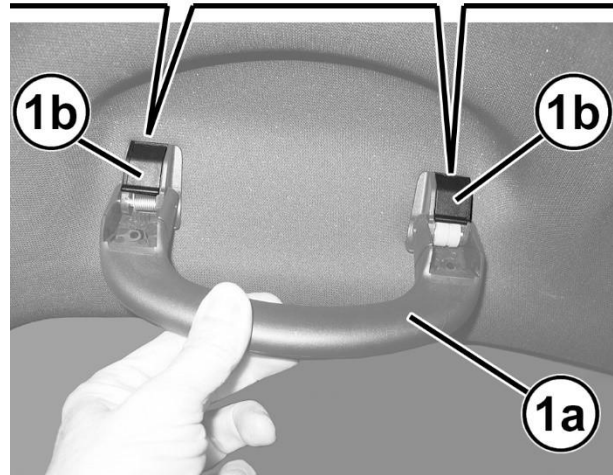
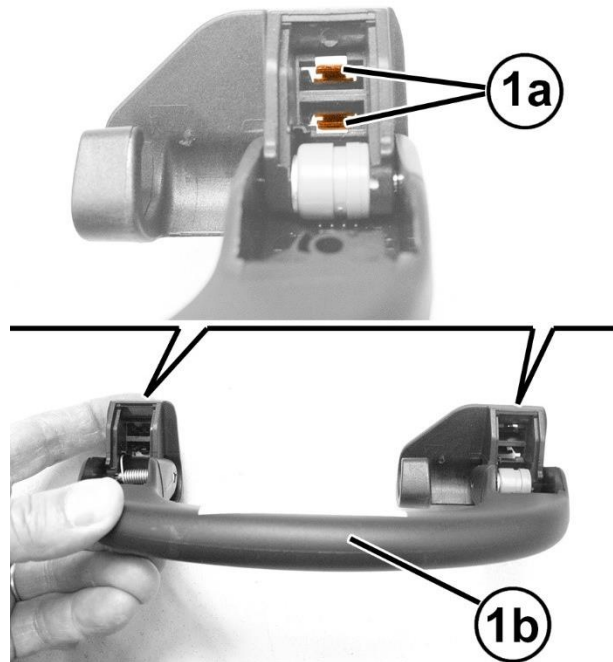

Figure 18 – Handle
Figure 19 – Handle
45. Remove all handles (Figure 18).
46. Lower the handle (1a) and release the covers (1b), inserting a small head screwdriver in the recess (1c) (Figure 18).
47. Release the inner retainers (1a) and remove the handle (1b) (Figure 19).
14. Position the grab handle in place and engage the retaining clips (1a) (Figure 19) then install the retainer covers (1b) (Figure 18).